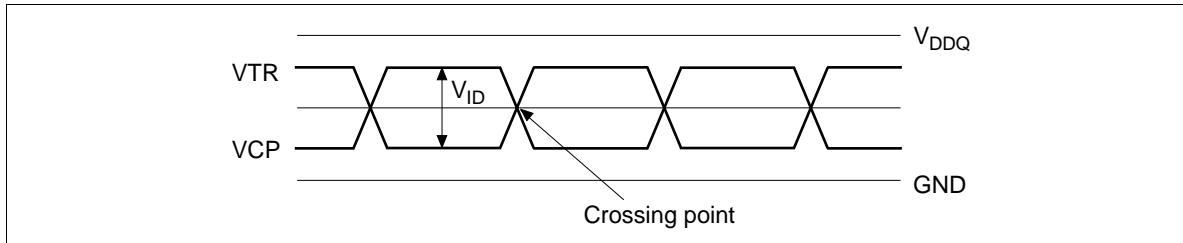

Figure 1-1 Differential input levels
3. Differential cross point voltage is expected to track variations of V_{DDQ} and is the voltage at which the differential signals must be crossing. (See figure1-1)